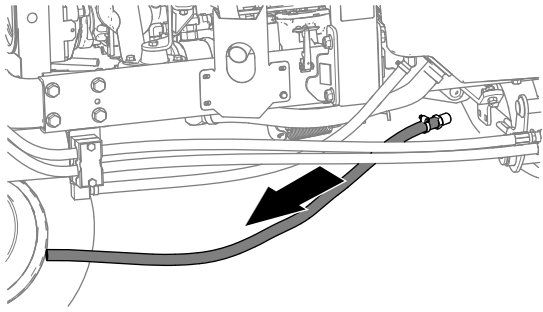

Figure 46
2. Remove the oil cooler return hose from the machine (Figure 46).